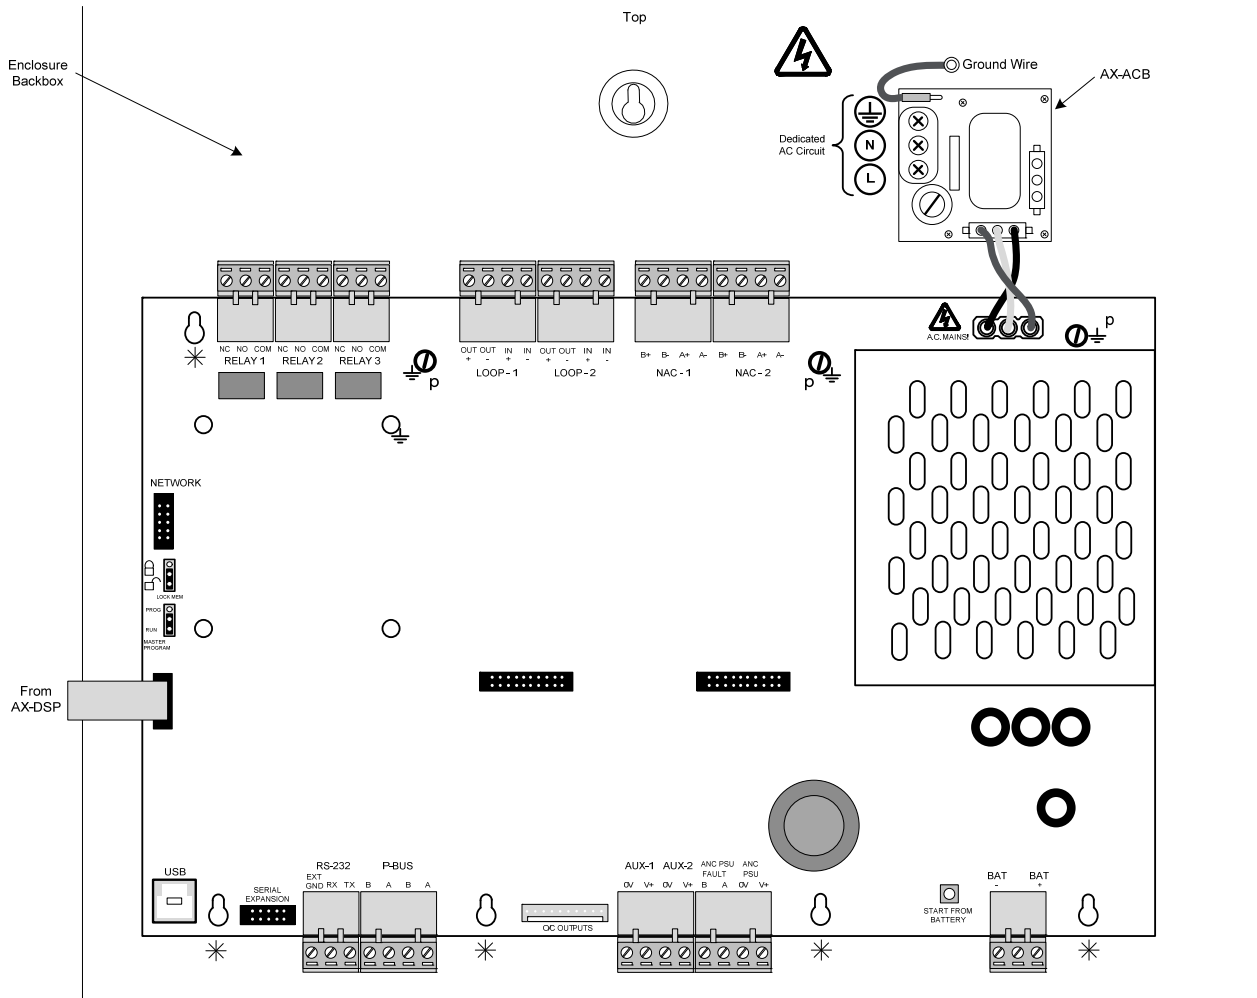

Figure 17 - AX-CTL Base Card
If replacing the AX-CTL base card, remove power (AC and battery) from the system. Remove all field wiring terminal blocks from the AX-CTL and disconnect the Molex connector cable originating from the AX-ACB board. Disconnect the flat ribbon cable attached to the AX-DSP, Alphanumeric Graphical Display, and remove the three (3) screws [p] securing the AX-CTL to the back box. Carefully slide the AX-CTL up and off of the five top-hat (screwless [*]) standoffs (see figure 17).